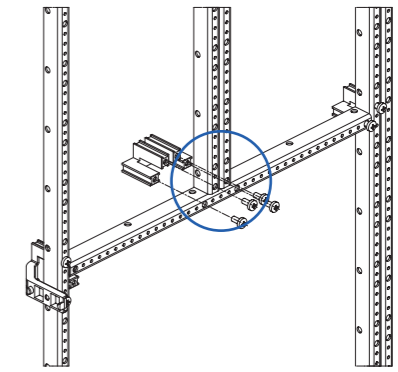

Fig. 3: Support rail connector (type EPTV) - for horizontal installation
**Support rail connector (Fig. 3 and 4)**